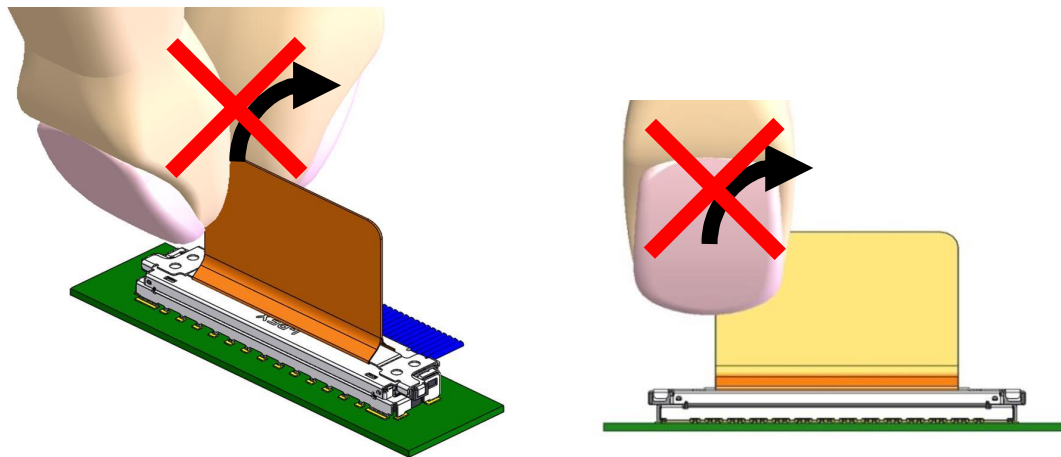

Fig.27 Do not pull one side of the PULL TAPE
- Do not pull one side of the PULL TAPE and rotate it while unmating. [Fig. 27]